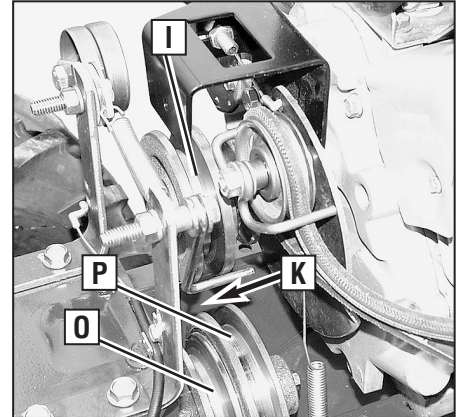
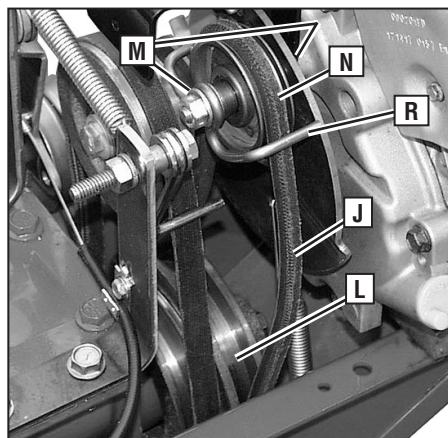

Figure 5-20: Arrow (K) shows insertion point for installing new forward clutch belt.
Figure 5-22: Right-side view.
3. From the front of tiller, insert the forward clutch belt in between the bottom of the engine drive pulley (I) and the top of transmission pulley (K, Figure 5-20).
pull down on the belt and roll it onto the large, forward-most groove of the transmission pulley (P, Figure 5-20).
The reverse clutch belt (J, Figure 5-22) is driven by the engine drive pulley (I, Figure 5-20). When the Reverse Clutch Control knob is pulled out, it pulls the reverse idler arm and pulley (N) which tightens the belt against the engine drive pulley. This drives the transmission drive pulley (L), resulting in reverse motion.
3. Pull the reverse clutch belt downward and slip it off the transmission pulley (L, Figure 5-22).
4. Use two 1/2" wrenches to loosen and remove wire belt guide (R, Figure 5-22) from the reverse idler arm pulley. Do not remove locknut and screw.
IMPORTANT: The reverse belt has a "V" shape. When installing the belt, make sure that the widest (flat) side of the belt rides against the reverse idler pulley (N, Figure 5-22) and transmission pulley (L). If needed, the belt can be twisted "inside out" so that the "V" shaped side is on the outside and the widest side is on the inside.
3. Insert the belt down into the front of the transmission housing. Slip the top half of the belt onto the reverse idler arm pulley (N).
4. Pull the belt downward and loop the bottom half of belt around the front groove of transmission pulley (L, Figure 5-22).
6. (You will need an assistant to help with this step.) Pull the reverse idler pulley (N) up to its highest point and position the belt guide (R) horizontally level as shown in Figure 5-23. Securely tighten the screw and lock nut (M, Figure 5-22).